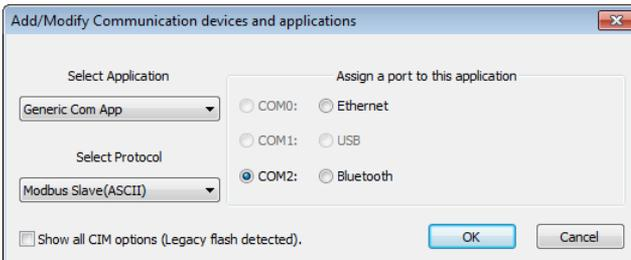

Figure 23: COMM 2 port definition
3. On the **Select Application** menu select the type of communication being added. For RS-232/422/485, select **Generic Com App** (Figure 23).